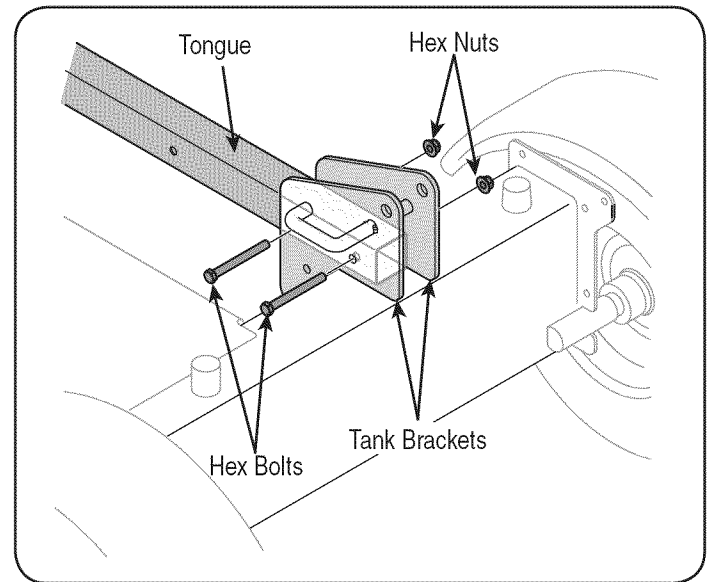

Figure 2
12. With the log splitter still secured to the bottom of the crate, remove two hex bolts and hex nuts from the tank bracket and remove the piece of wood inside the tank brackets. See Figure 2.
13. Align the holes in the tongue with the holes in the tank bracket and secure with the hex bolts and nuts just removed. See Figure 2.